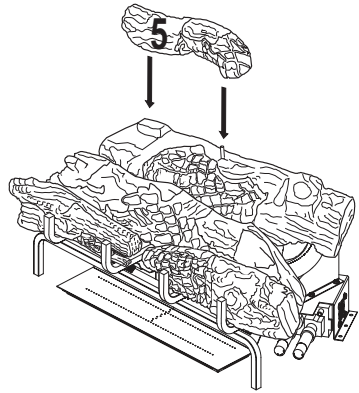

Figure 35- Installing Log # 5
5. Place the left top back log (#5) on top of the rear log. Match the rectangular projection on top of the left side of the rear log with the rectangular hole on the bottom of the left top back log. Match the metal pin on the top of the rear log with the round hole in the bottom of the left top back log. See Figure 35.